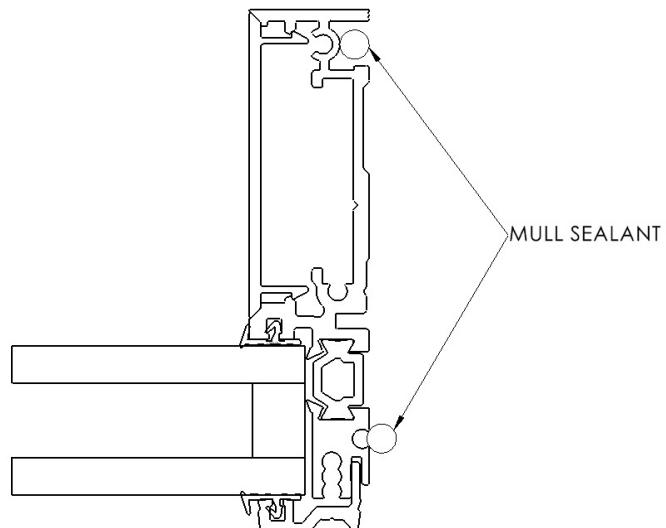

Figure 3
1. Apply a 1/4" diameter bead of Dow 795 sealant or equivalent sealant in the mull clip grove and at the sealant grove. (See Figure 3)